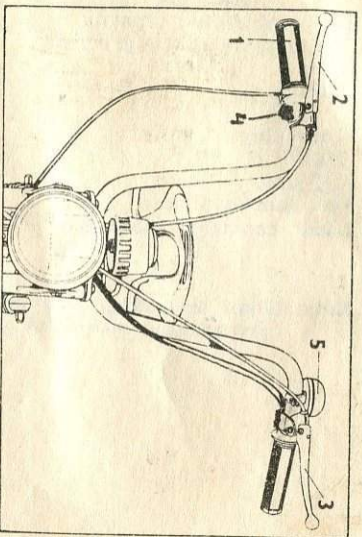
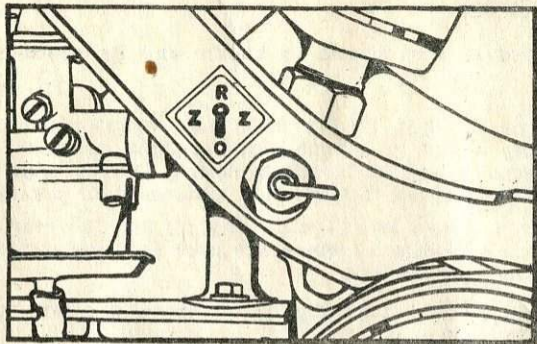
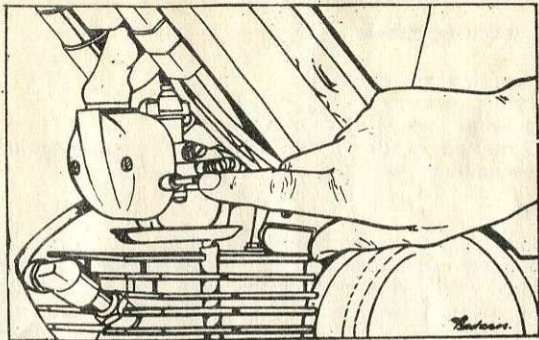

Fig. 2 — Controls
Fig. 4 — Fuel cock
Fig. 5 — Air intake shut—off pushrod
- a) Throttle twistgrip (1, Fig. 2) by the turning of which the starting clutch is automatically engaged and disengaged (by accelerating or throttling down), and by which also the moped speed is controlled (increased or decreased);
- b) the front brake lever (Pos. 2, Fig. 2) and the rear brake lever (Pos. 3, Fig. 2) which are used for deceleration and stopping of the moped;
- c) Ignition switch off (4, Fig. 2) by means of which the engine is stopped;
- d) the bell (5, Fig. 2);
- f) the fuel cock control lever (Fig. 4);
- g) the air intake shut-off pushrod (Fig. 5);
Open the fuel cock (Fig. 4), push down the air intake shut-off pin (Fig. 5) as far as it will go (the pin returns immediately into its original position but the air intake remains throttled — the engine is supplied with a richer mixture. Now two methods can be used for starting the engine.
If you have to slow down, release the twistgrip and apply the brakes by pulling the brake levers (2, 3 — Fig. 2). Proceed in the same way to stop the moped. The drop of engine speed results in the disengagement of the starting clutch, and the engine runs at idling speed. To continue the ride, just accelerate (turn the twistgrip). The starting clutch engages and the moped starts moving. At the end of the trip stop the engine by depressing ignition switch off (4, Fig. 2) and shut off the fuel supply by turning the lever of the fuel cock (Fig. 4).